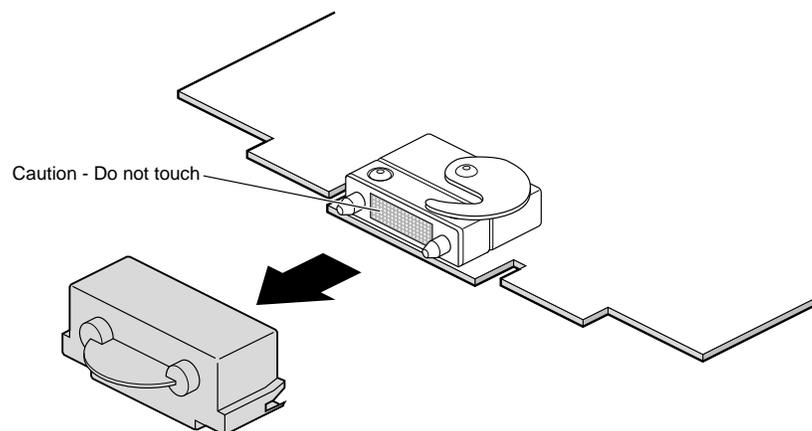

Figure 2-22 Removing the Compression Connector Cap
1. Remove the caps on the compression connectors on the back of the system module, as shown in Figure 2-22. Do not touch the system module compression connectors as you lift the module into the workstation.